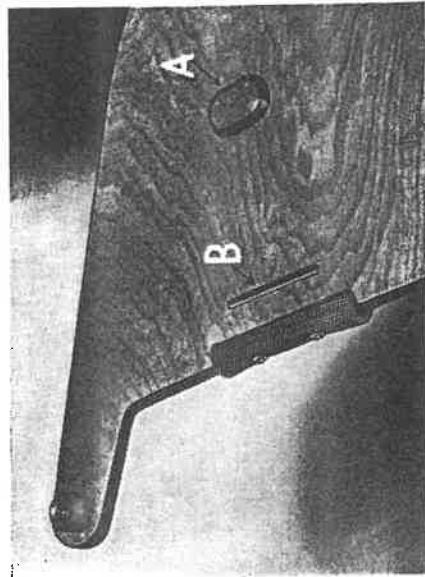

Fig. 20.—A friction method of maintaining and adjusting a wooden centreplate in any desired position.
2. Adjustable rubber hose as shown in Figure 20. Tighten the screws until the right amount of tension is obtained, a small wooden button (marked A) is glued to both faces to take up excessive play in the case. Marked B in the photograph is a tapped brass strip let into the board.